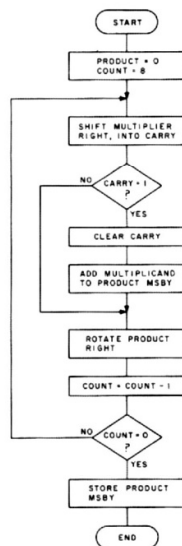

Fig. 1. An eight-bit by eight-bit unsigned multiplication algorithm.
5. Decrement the multiplier count. If it is zero, store the final product's most-significant byte (MSBY) in memory, and return; otherwise, go back to process the next multiplier bit. The flowchart in Fig. 1 performs these five tasks.